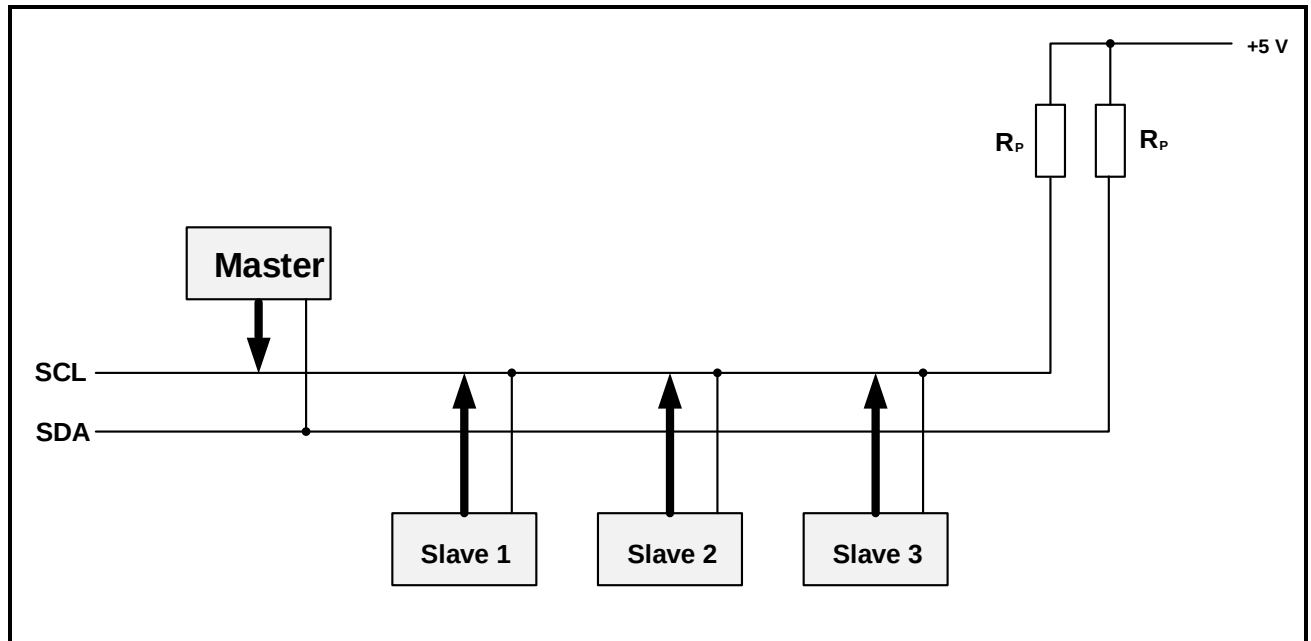

FIGURE 6.7
6.7 FIGURE 6.7 below is the block diagram of the I²C bus system. Answer the questions that follow.